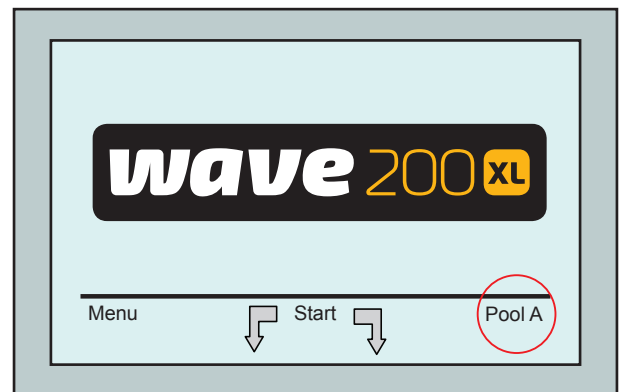

Figure 4: *Wave* screen showing Pool A as default setting
1. Go to the *Wave* screen. Pool A is displayed as the currently defined setting as shown in Figure 4.